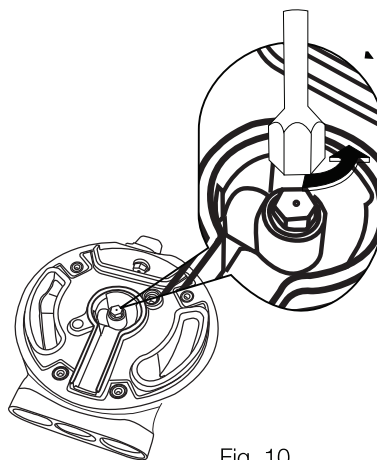

Fig. 10
- With a socket spanner 7 , unscrew and remove the injectors (Fig 10), and replace them with the ones required for the type of gas in use.